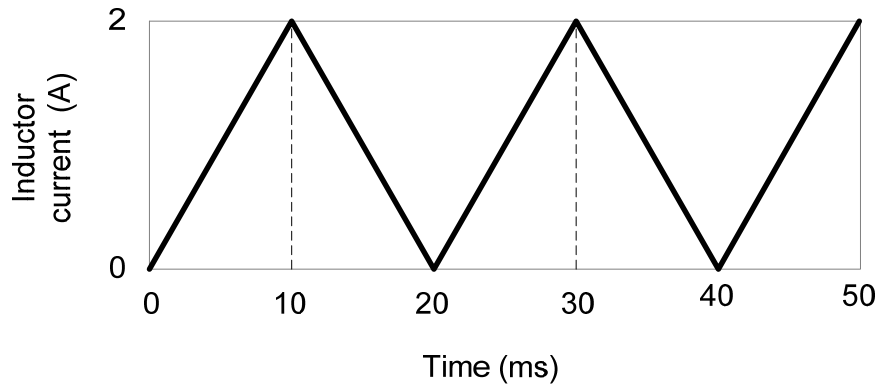

Figure Q1-a
b. Figure Q1-b shows the Forward Bias Safe Operating Area (FBSOA) of one IGBT.
- ii. Please point out what do the four curve items ①, ②, ③, ④ stand for? [4]